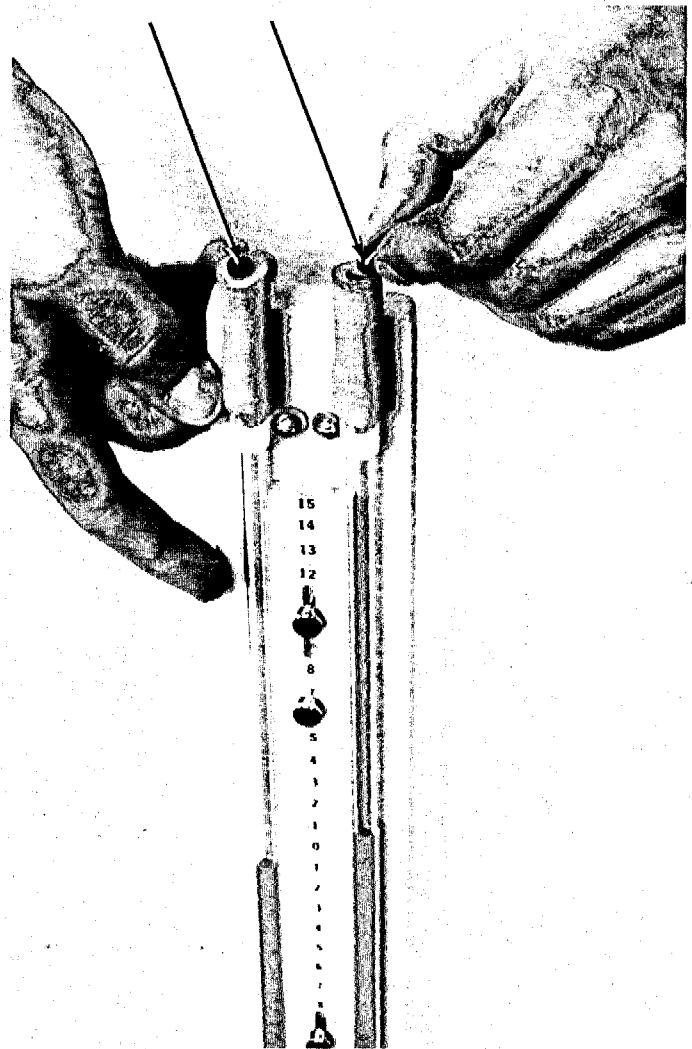
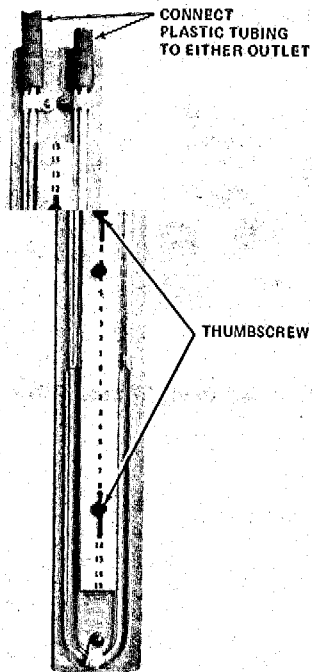

Figure 9 - Removing Shipping Plugs From Manometer
Figure 10 - Manometer
C.11. Remove the two red shipping plugs at both ends of the manometer as shown in Figure 9, being careful not to spill any of the indicator fluid. If any is spilled, add water mixed with food coloring or water soluble ink until the level is at about 0. Whether or not fluid is added, the exact location of 0 can be adjusted by loosening the two thumb screws as shown in Figure 10, and sliding the scale up or down. **DO NOT ATTEMPT TO MOVE THE GLASS.**
C.12. To reinstall the manometer into the calibration equipment box, insert the bottom end first into the frame. Then connect the single piece of plastic tubing to either outlet of the manometer (refer to Figure 10). Make sure the plastic tubing is inserted far enough into the rubber sleeve to insure leak-free operation. Finally, slip the manometer assembly down over the hook until it locks in place.